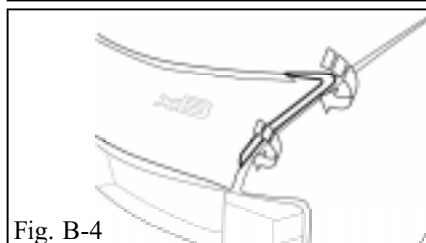

Fig. B-4
5. Roll the hood mask underneath the edges of hood, and then close the hood (Fig. B-4.)